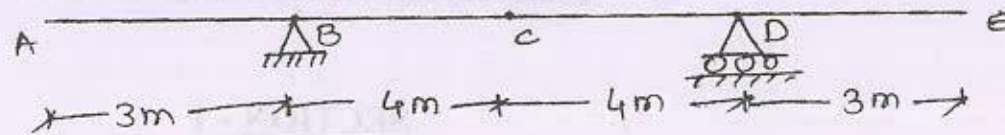

Fig 3.1
b) Construct influence line diagram of the beam shown in fig. 3.1 for [12]